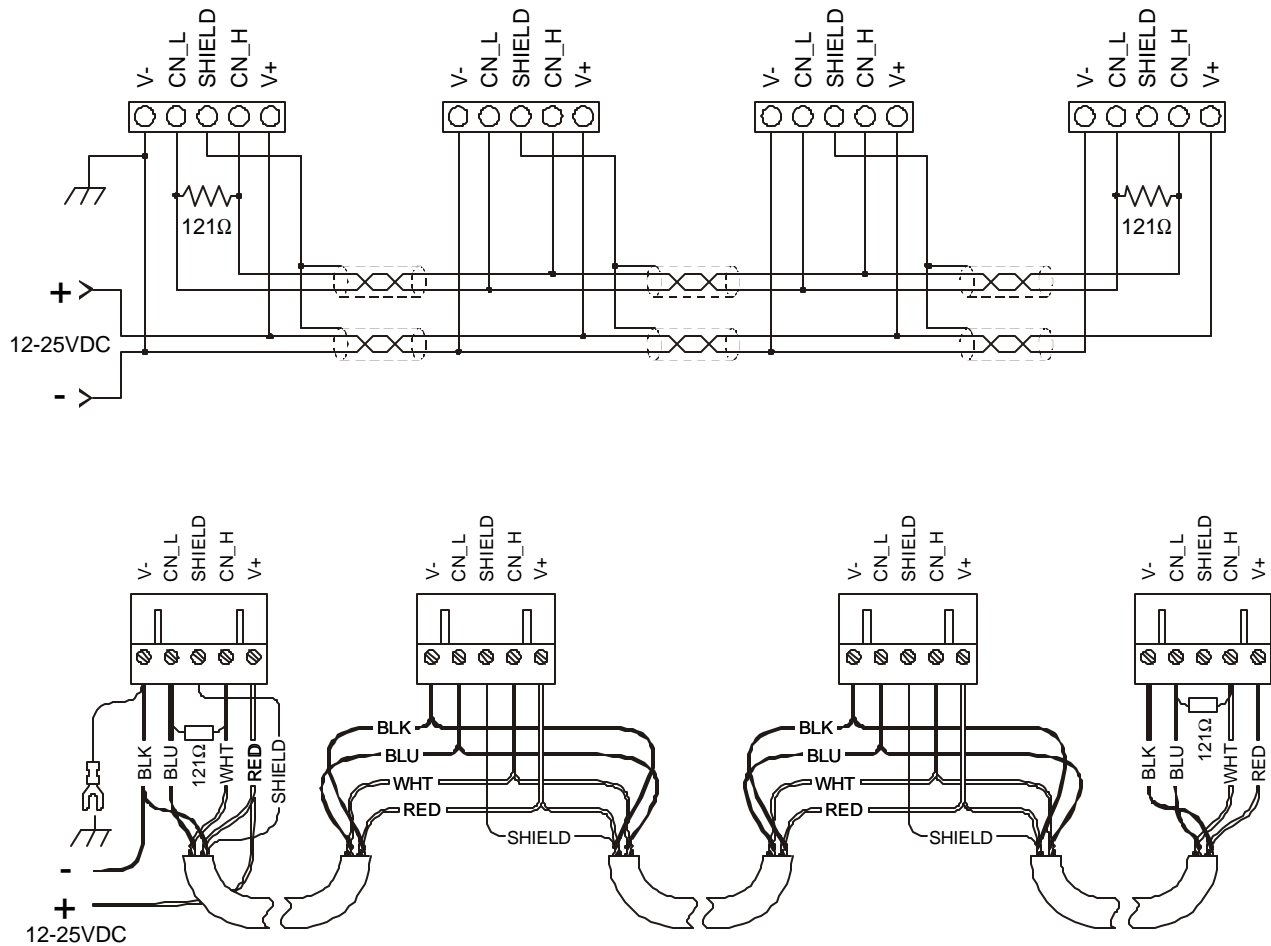

Figure 2.16 – CAN Wiring
- a. CAN Wiring Rules (See Figure 2.16.)
4. To ground the cable shield, connect to pin 3 as shown in Figure 2.16.